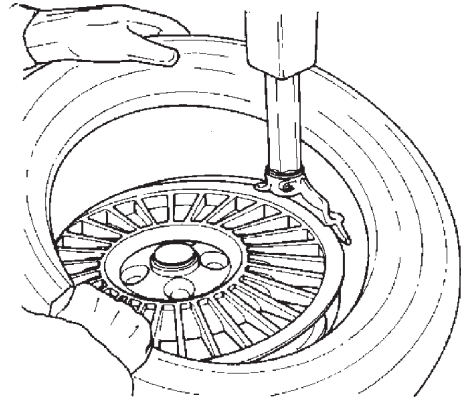

Fig. 4.2-3
B. Lock the rim to the turntable and rotate it so that the valve is at the 2 o'clock position. Place the tire to be mounted on the rim. Swing the mount/demount arm in so that the mount/demount head is in the working position. (Fig. 4.2-3) Position the lower bead on top of
the mount/demount head and UNDER the mounting finger of the mount/demount head (Fig. 4.2-3). Turn the wheel clockwise (right pedal down) while simultaneously pushing the tire down into the drop center, opposite to the mount/demount head.